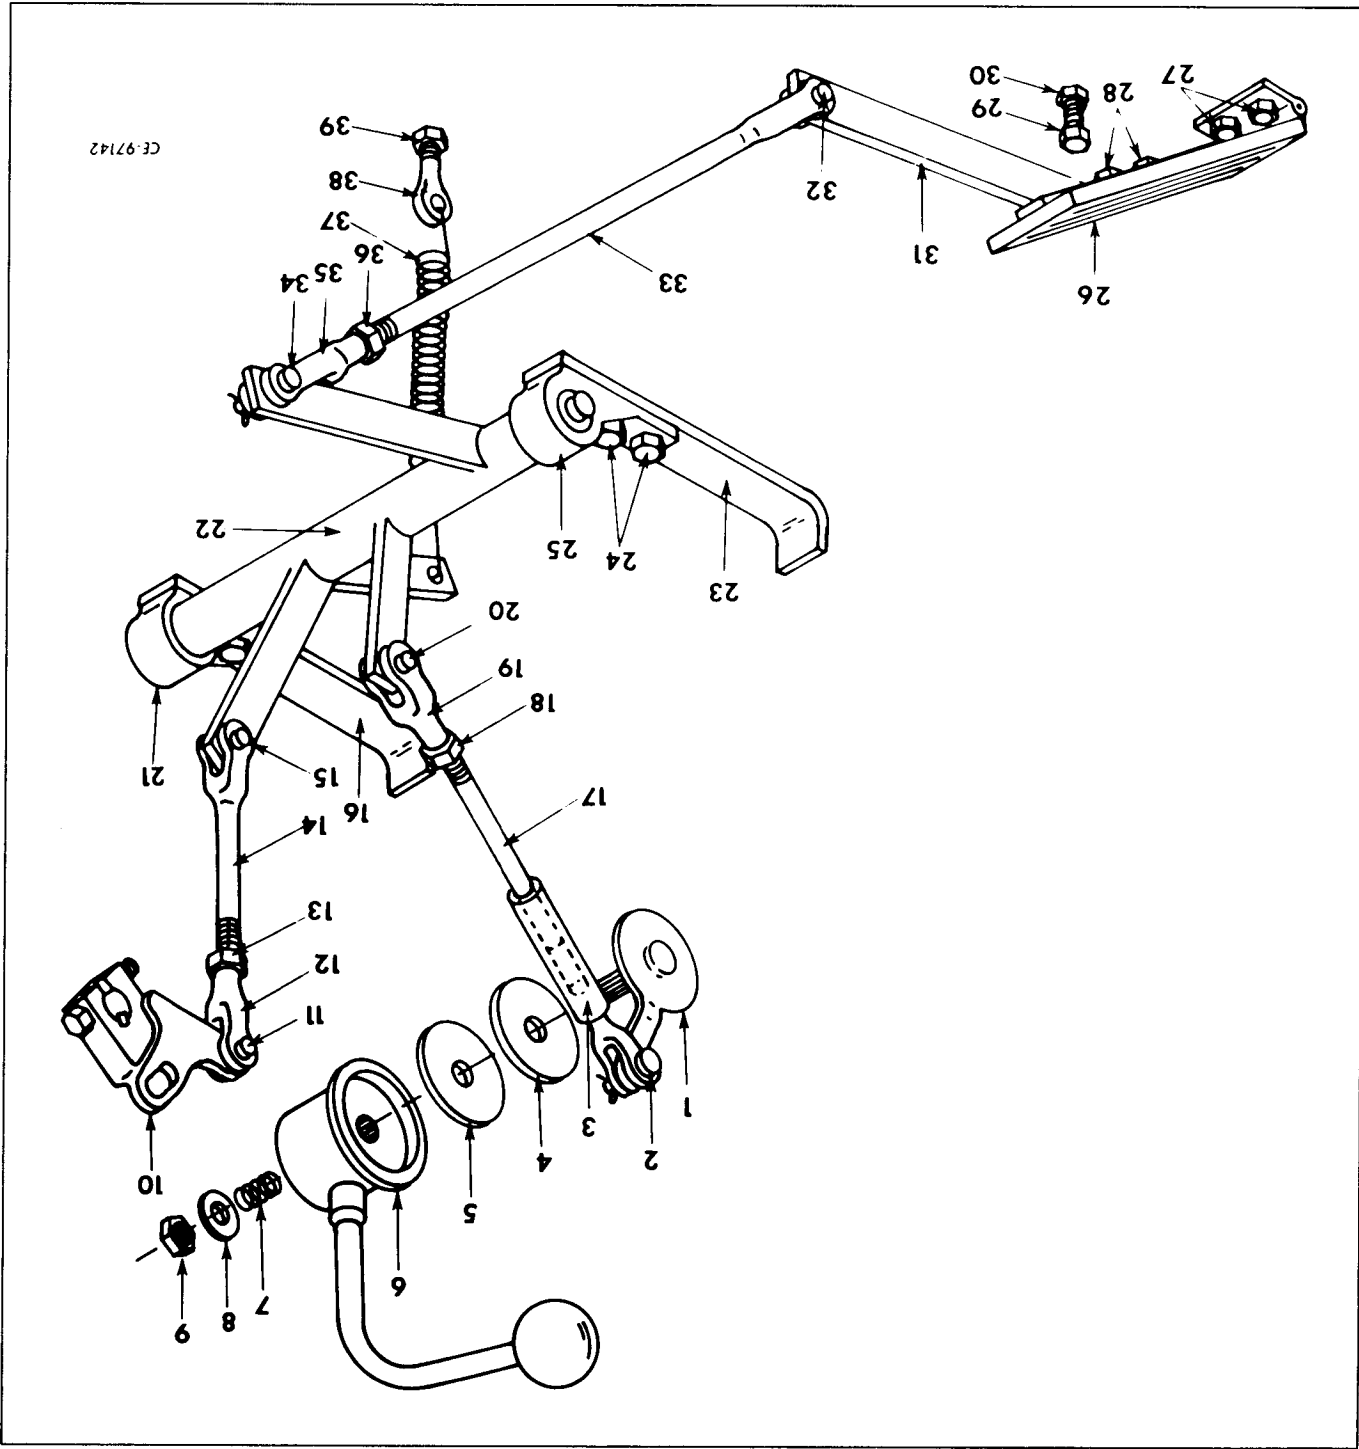

Figure 15-4
Check the amount of tension on return spring (37, Fig. 15-4) to be certain it has enough to properly return the linkage. Tension adjustment can be accomplished by removing spring (37). Loosen jam nut (39) and rotate eye bolt in either direction depending on the adjustment needed. Install return spring (37) and tighten jam nut (39).
Legend for Figure 15-4